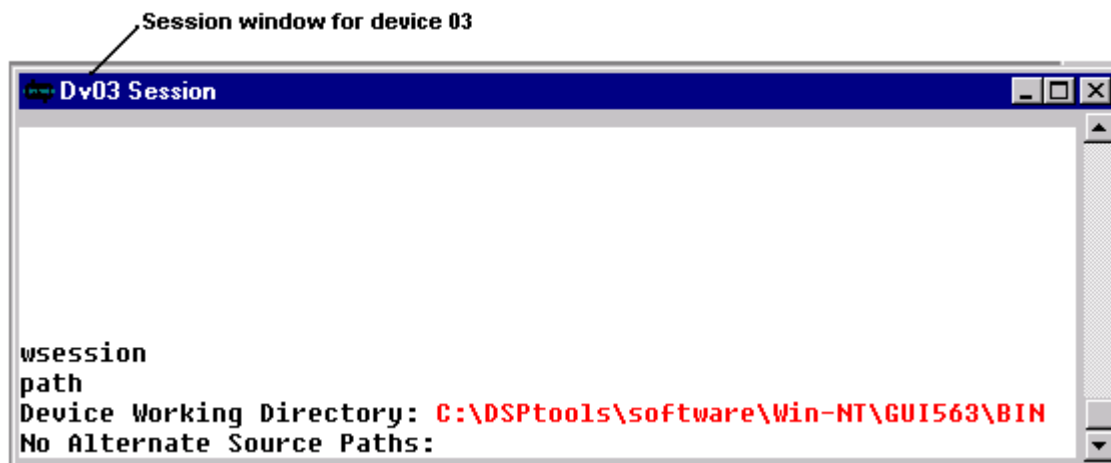

Figure 4-1. Displaying Current Paths
2. Open the Session window if not already open. The window in Figure 4-1 appears. You will see the current working directory and the alternate source paths displayed.
1. From the **File** menu choose **Path**, then select **Set**. A dialog box similar to the one in Figure 4-1 appears.